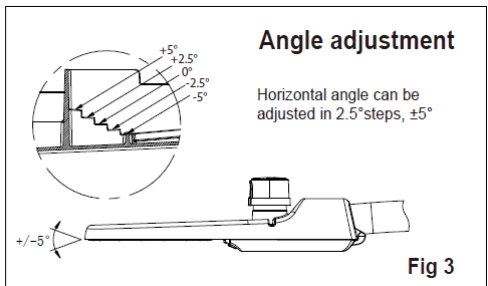

Fig 3
4. Search for approximate penetration, adjust horizontal angle properly and tighten M 10 screws(11.06 to 14.75 lbf.ft). See Fig 3.